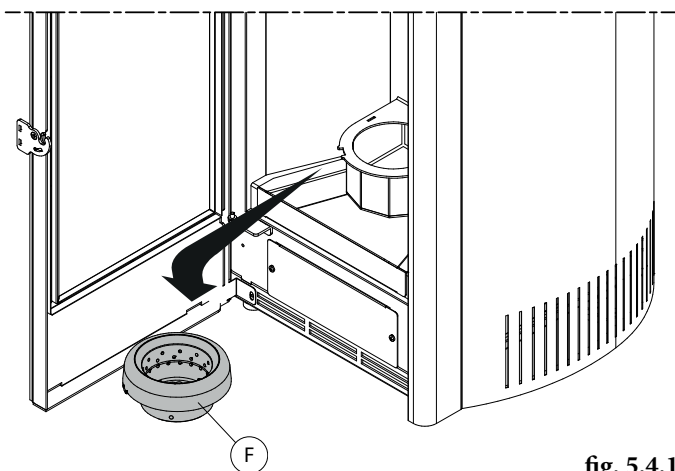
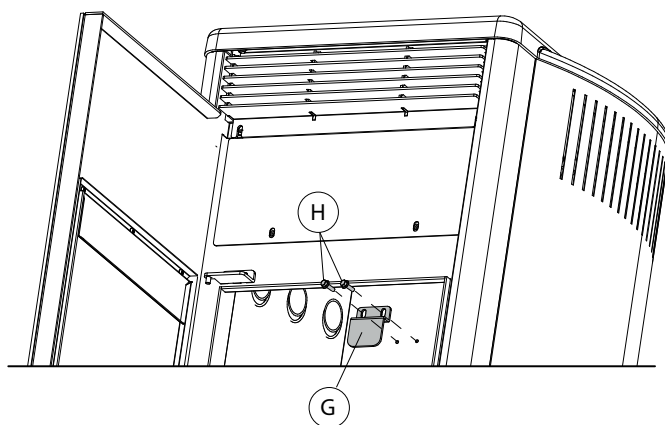

fig. 5.4.1
fig. 5.4.2
- Open the door and remove the brazier F (Fig. 5.4.1) and the mounting bracket G by acting on the two screws H (Fig. 5.4.2)